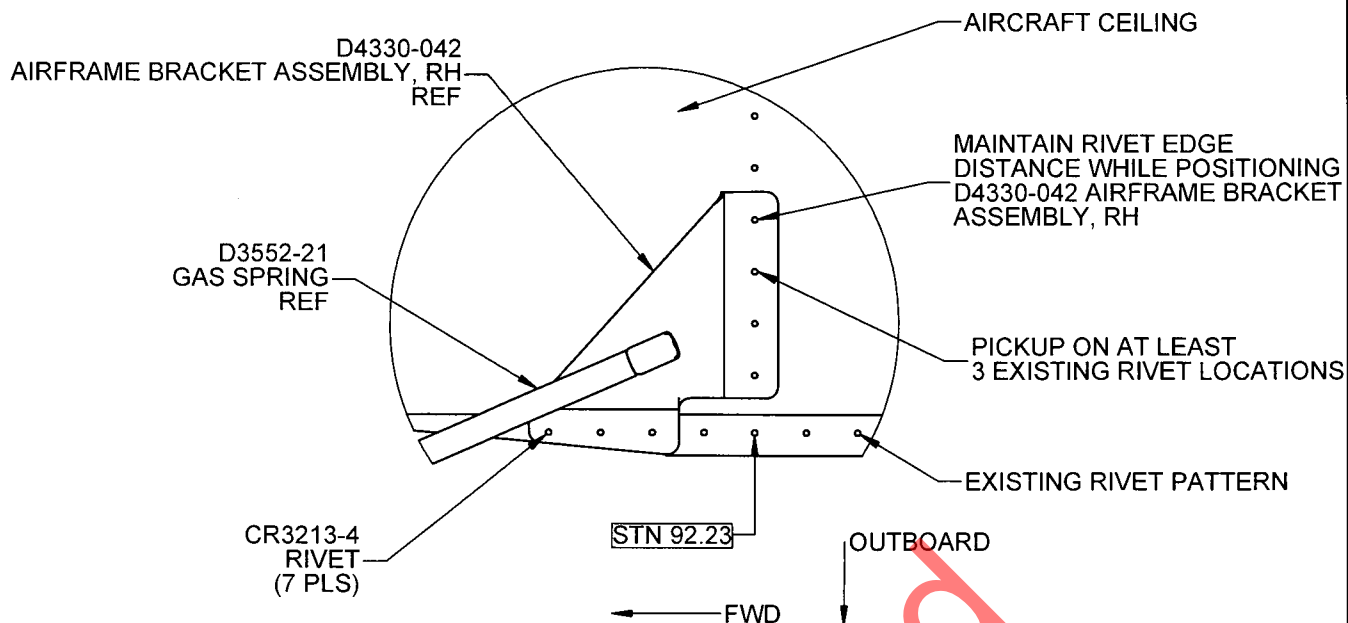
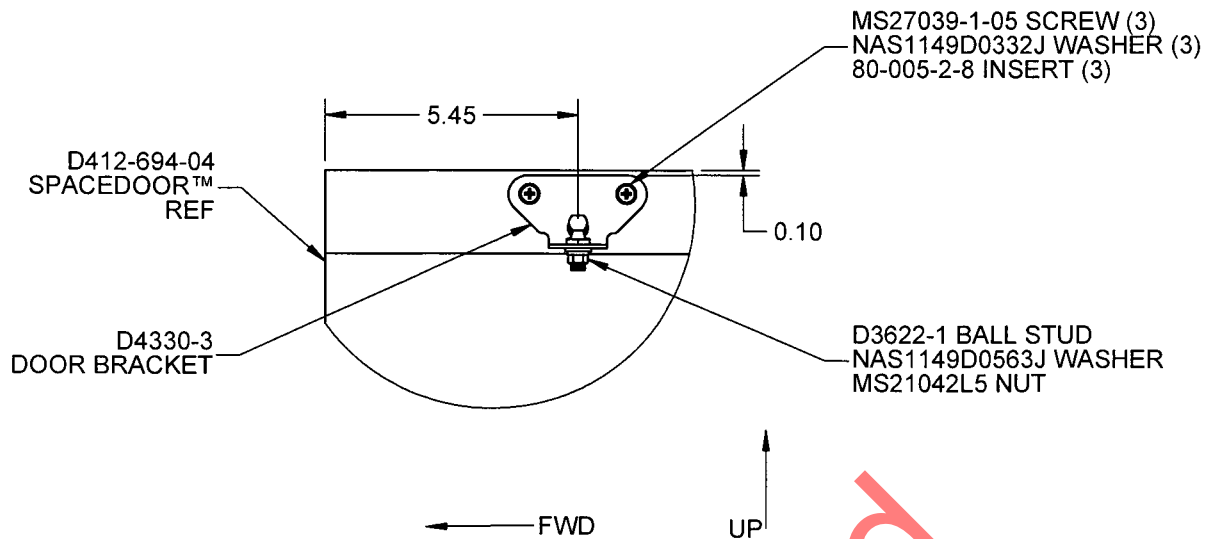
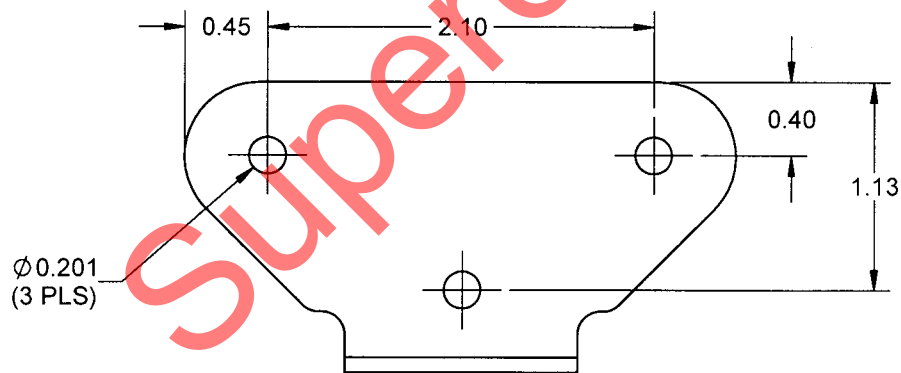

FIGURE 3: LOCATION OF D4330-042 AIRFRAME BRACKET ASSEMBLY
FIGURE 6: LOCATION OF D4330-3 DOOR BRACKET (SPACEDOOR™)
FIGURE 7: LOCATION OF D4330-3 DOOR BRACKET MOUNTING HOLES
8. Locate D4330-042 Airframe Bracket Assembly, RH on the aircraft ceiling per Figure 3. Transfer drill #30 ($\phi 0.129$ ") holes from the ceiling to D4330-042. Deburr holes.
10. Apply a thin layer of Proseal 890 (or equivalent) to faying surface of the D4330-042/-3 brackets. Install the D4330-042 Airframe Bracket Assembly, RH using CR3213-4 rivets as shown in Figure 3. Install D4330-3 Door Bracket using CR3213-4 rivets as shown in Figure 4.
8. Locate D4330-042 Airframe Bracket Assembly, RH on the aircraft ceiling per Figure 3. Transfer drill #30 ($\phi 0.129"$) holes from the ceiling to D4330-042. Deburr holes.
9. Locate D4330-3 Door Bracket on the Spacedoor™ per Figure 6. Using Figure 7 as a guide for the approximate locations of the mounting holes, drill 3x #7 ($\phi 0.201"$) holes in D4330-3 and the inner door skin. Enlarge holes in Spacedoor™ inner skin to 9/16" ($\phi 0.5625"$).
11. Apply a thin layer of Proseal 890 (or equivalent) to faying surface of the D4330-042/-3 brackets. Install the D4330-042 Airframe Bracket Assembly, RH using CR3213-4 rivets as shown in Figure 3. Install D4330-3 Door Bracket using hardware as shown in Figure 6.
13. Install a D3622-1 Ball Stud on the D4330-3 Door Bracket using hardware specified in Figure 6.